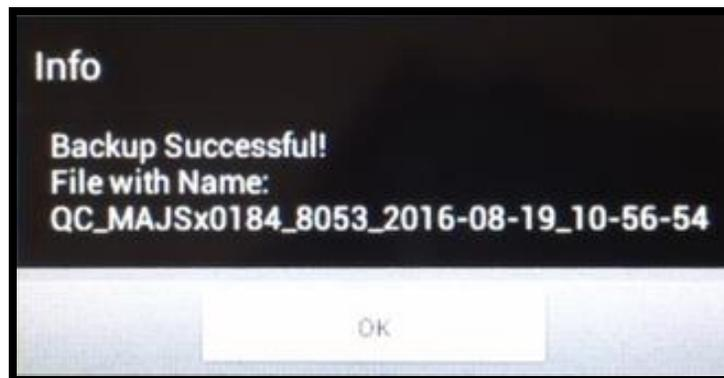

Figure 33
- a. **Lin-Lin (linear graph) “Print”** – Press this button to print the test results from the analysis along with a graph in Lin-Lin mode. When the Print button is pressed, the results for this analysis will be saved (backed-up) to the USB “stick” and printed. When pressed, an info window stating “Backup Successful! File with name: _____” The name of the following operator fields form the Setup page: (See Figure 33)
- ii. When the “Print” button is pressed, it will save the Rosin-Rammler format analysis and print the results the test results from the analysis along with a graph in Rosin-Rammler mode. When the Print button is pressed, the results for this analysis will be saved (backed-up) to the USB “stick” and printed. When pressed, an info window stating “Backup Successful! File with name: _____” The name of the following operator fields form the Setup page: (See Figure 33)